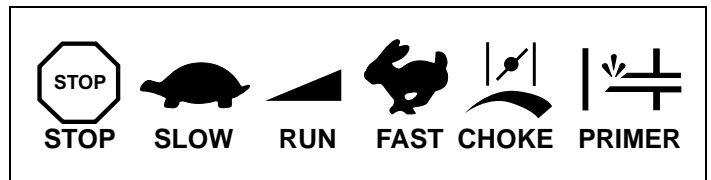

Figure 24. Typical Engine Symbols
4. Move engine speed control to "FAST" position and set choke control to "FULL CHOKE" position (see equipment manufacturer's instructions). See Figures 24 thru 27. Afterward, continue reading instructions below.
- c. Finally, move engine speed control to desired speed in "RUN" range. See Figures 24 and 25 on page 10. Afterward, continue reading instructions below.